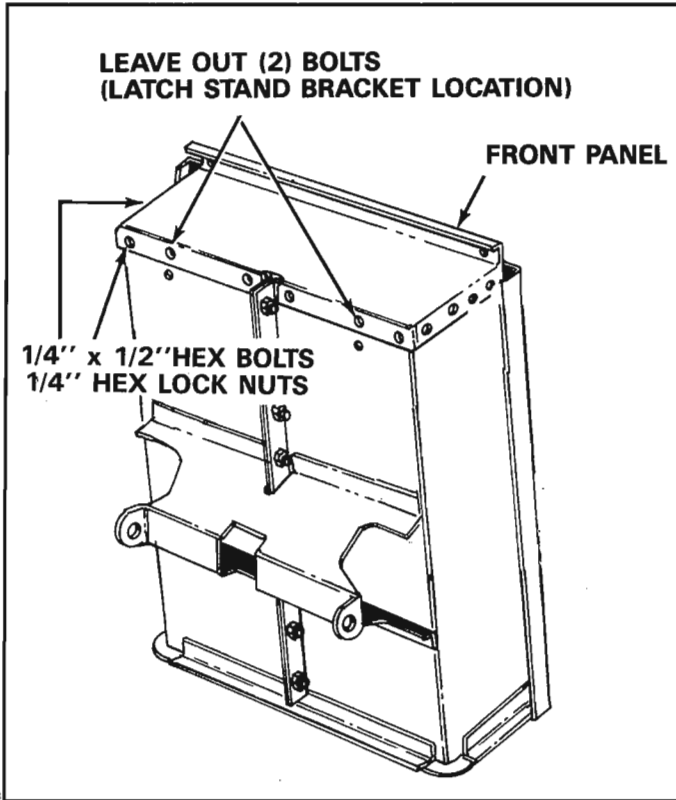

FIGURE 6
- Assemble front panel to open end of cart body, using 1/4" x 1/2" hex bolts and 1/4" hex lock nuts. Bolt heads to inside of cart. Leave out (2) bolts for latch stand bracket. See figure 6.